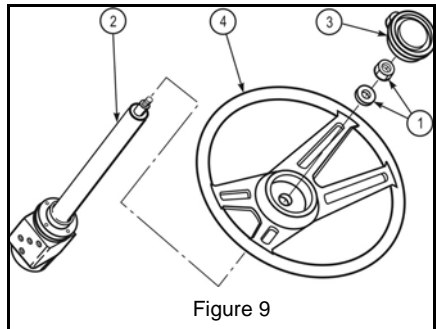

Figure 9
1. Remove nut and washer (1, Figure 9) from steering shaft (2, Figure 9).
2. Remove steering wheel cap (3, Figure 9) from steering wheel (4, Figure 9).